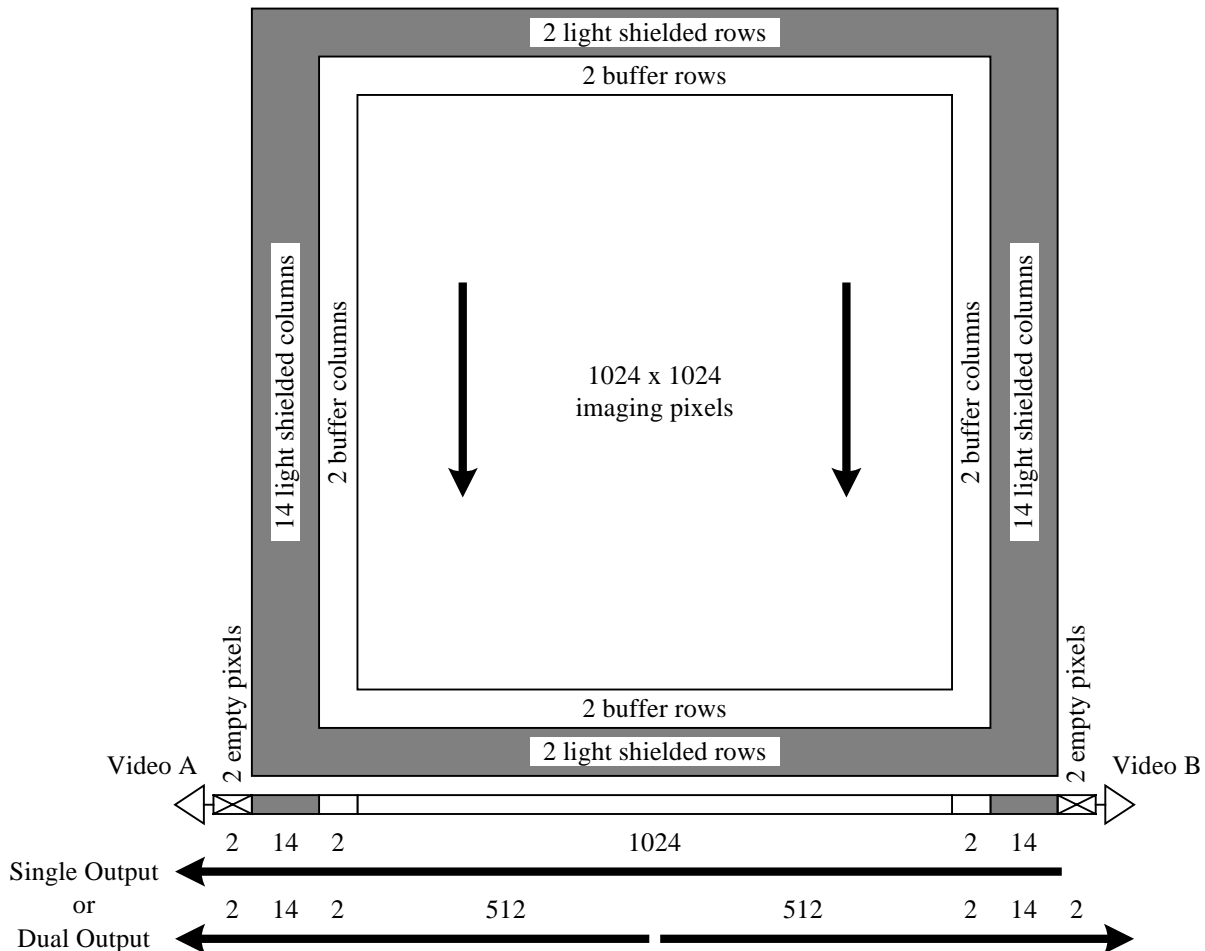

Figure 1 - KAI-1003M Pixel Architecture
The single horizontal CCD register is split into two halves to allow a variety of line readout modes, as shown in Figures 1 and 2. The A output half of the register is a true two-phase design, which results in unidirectional transport using phases H1A and H2A. The B output half of the register is a pseudo two-phase design, which allows bi-directional transport using phases H1B, H2B, H1C and H2C. Dual output is achieved with all of the first phases identical and all the second phases identical. If the clocks of H1A and H2A phases are shifted by one half cycle, the output remains dual with the outputs alternating, so that only one analog-to-digital converter is necessary. Finally, single output of the entire image from the A output is obtained by complementing the C phases, which reverses transport in the B half of the horizontal CCD.
In addition to the 1024 (H) by 1024 (V) imaging pixels, there are active buffer, light shielded and empty pixels, as shown in Figure 1. A two pixel border of active buffer pixels surrounds the imaging area. These buffer pixels respond to illumination but are not tested for defects and non-uniformities. Two light shielded rows lead and follow each frame, and 14 light shielded columns lead and follow each line. The light shielded columns are tested for column defects and can be used for dark reference. Only the center 10 columns by 1028 rows of light shielded region on each side can be used for dark reference due to light leakage into the border of two pixels at the edges. Finally, two empty pixels occur at the beginning of each line, which are empty shift register cycles not associated with any vertical CCD columns. Empty pixels may also occur at the end of the line, depending on the timing.